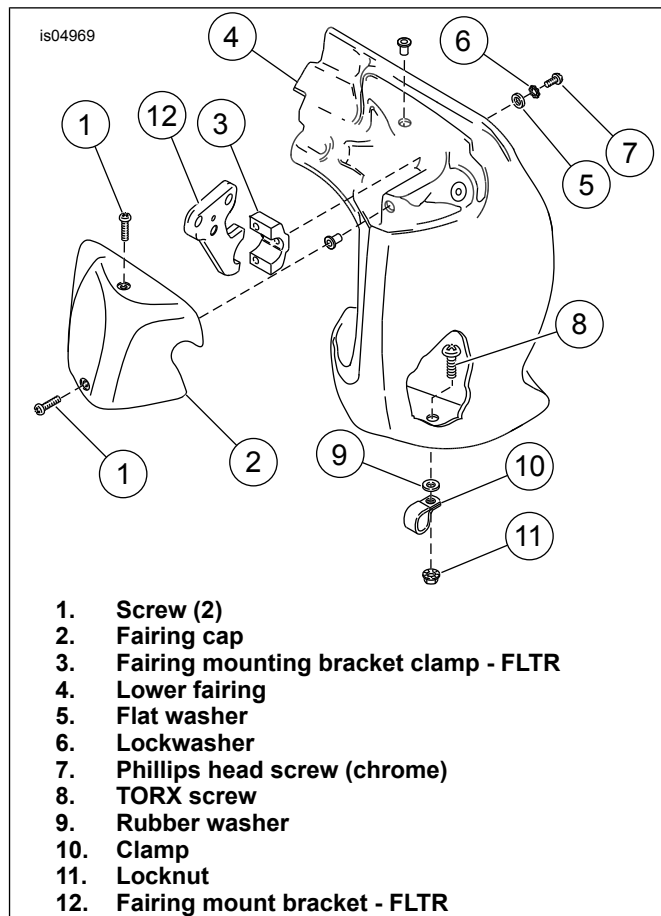

Figure 2. FLTR/I Accessory Lower Fairing
4. See Figure 2. Remove the TORX® screw (8), rubber washer (9), locknut (11) and the clamp (10) that attaches the bottom of the lower fairing (4) to the engine guard and set aside.
5. Remove the two screws (1) that attach the fairing cap (2) to the lower fairing. Remove the cap. Set the parts aside for installation.
6. Remove the screw (7), lockwasher (6) and flat washer (5) from the clamp (3) holding the top of the lower fairing to the bottom upper fairing mounting bracket (12).
7. Remove the large clamp (3) from the engine guard.